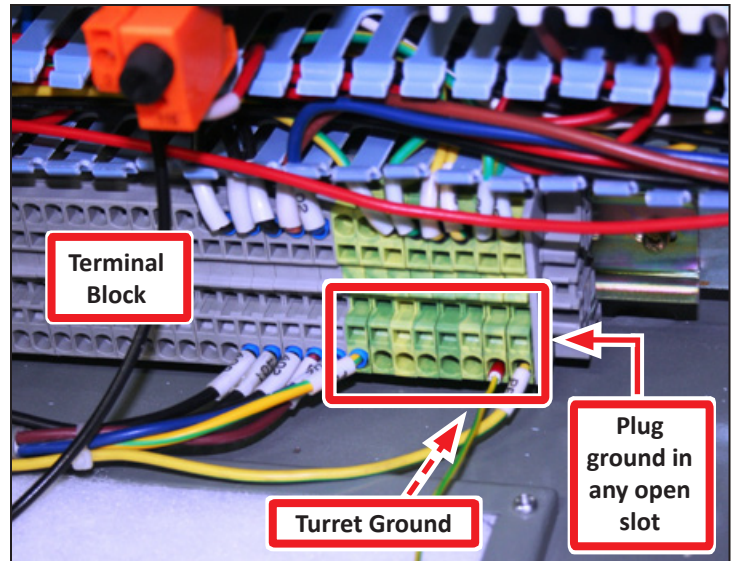

Figure 21
15. Route the loose end of the Turret Ground wire through the Wire Troughs and to the green-colored section of Terminal Block (see **Figure 14** and **Figure 21**).